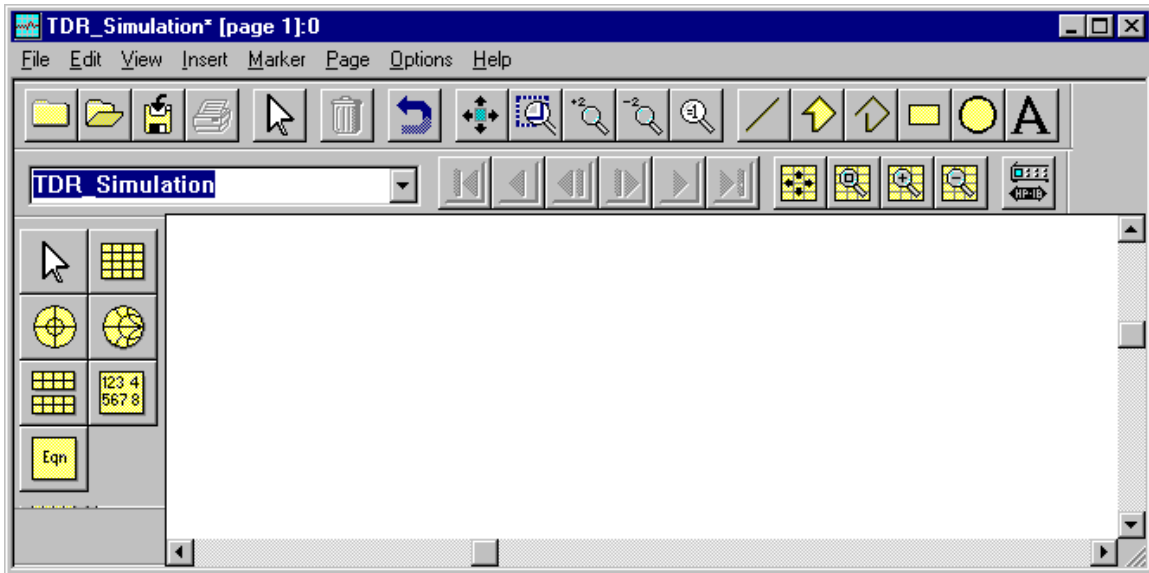

Figure 5: Data display window for TDR simulation
5. Now simulate your design by typing F7 or choosing **Simulate->Simulate**. Wait until the data display window opens as shown in Figure 5 below. The data that is